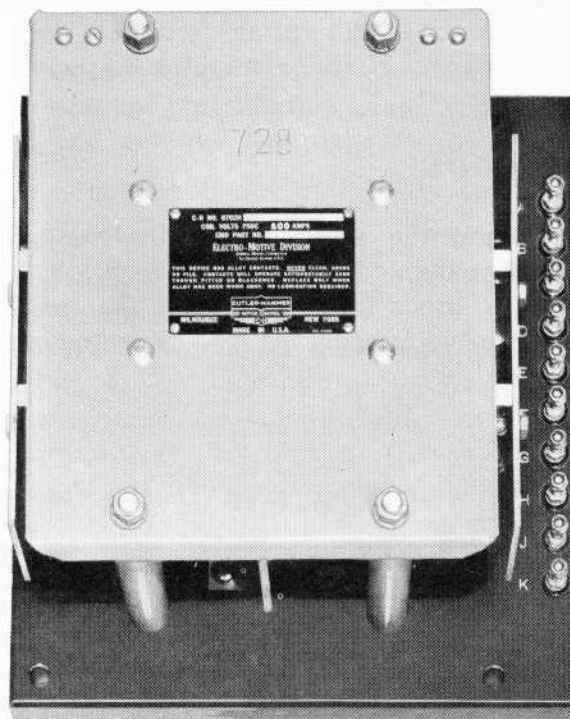

Fig. 1 - Field Shunting Contactor
Traction motor field shunting contactor (FS), part #8225437, Fig. 1, is a 4 pole contactor designed for 74 volt DC operation. The heavy duty bridging type main contacts are rated at 500 amperes. The 3 normally open and 1 normally closed auxiliary contacts are designed to carry 25 amperes inductive load.
Terminals for the auxiliary contacts and operating coil are located on the front of the mounting base for easy accessibility. The main power cable terminals are arranged for connections at the rear of the base. The contactor assembly is intended for panel mounting in a vertical position as shown in Fig. 1.